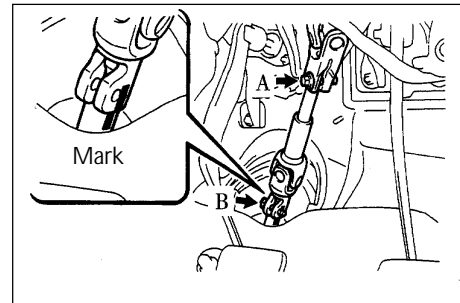

Figure 1-6
13. Disengage No.2 steering countershaft assembly (see Figure 1-6).